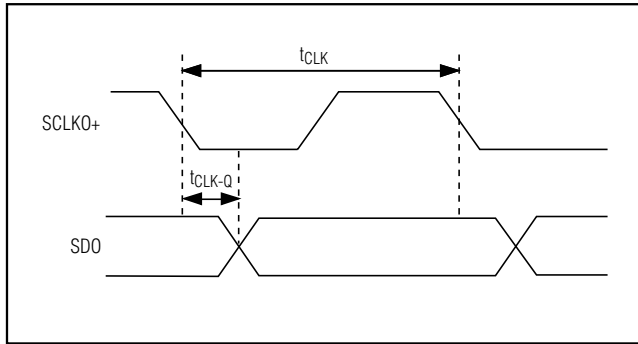

Figure 3. Definition of Clock-to-Q Delay
**Note 9:** Relative to the falling edge of the  $SCLKO_{+}$  (Figure 3).